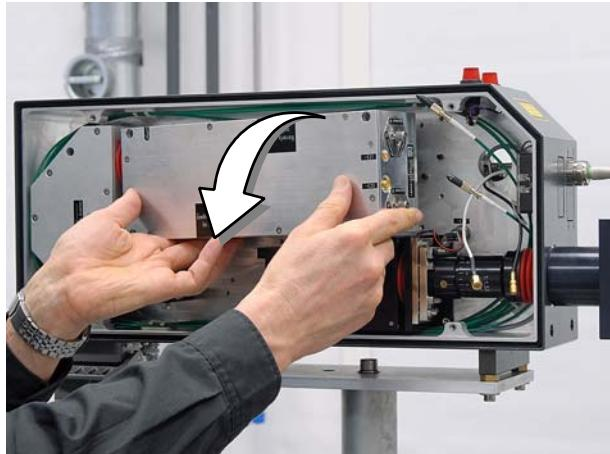

Figure 7.58 Removing the resonator module
9. Pull the resonator module off the alignment pins and then tip it out as shown in Figure 7.58 to prevent the cooling water remaining in the resonator module from spilling. In the process, secure the fastening screws from falling out as well.